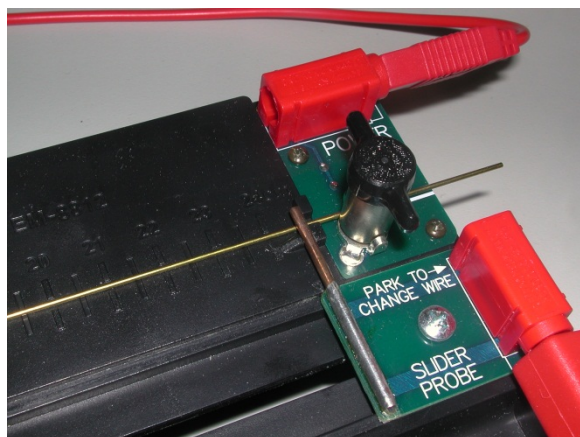
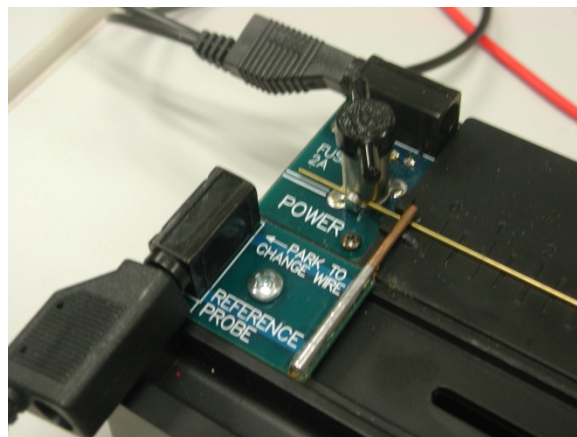

Figure 2: Right Hand Clamp
Figure 3: Left Hand Clamp
6. Install the copper wire in the apparatus. Slide from left or right using the white line-up hash marks. Figure 2 shows the right hand side as the wire slides in. Note that on the right hand side, the wire is on the far side of the silver clamp (with black handle), but on the left hand side the wire will be on the near side of the clamp as shown in Figure 3. This prevents the wire from bowing as you tighten the clamps.